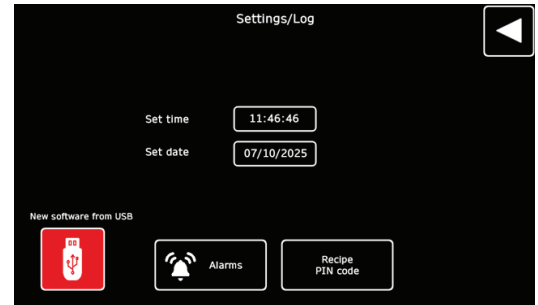

Figure 19-2.
- Time/Date (Figure 19-2).
6. Select the “Recipe PIN Code” button to disable the PIN code. (Figure 19-2).